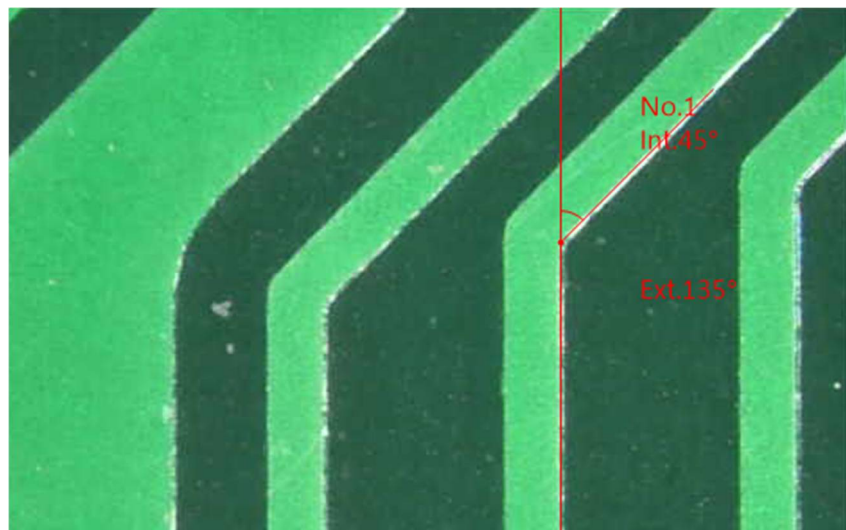

Fig. 5-24 Assisted measurement of Vertical Angle
- (13) Vertical Angle : Measure any Vertical Angle by a vertical line that can apply  tool. Draw a vertical line, auto pop up the other oblique line to the vertical line, then auto measure the inner Angle/ external Angle as Fig. 5-24 shown.